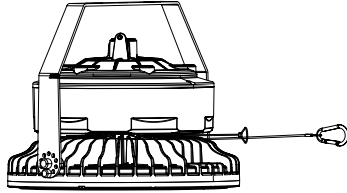

Fig. 14
2. Surround the wire rope to the wire rope fixing position in the middle of the luminaire (Figure 14).